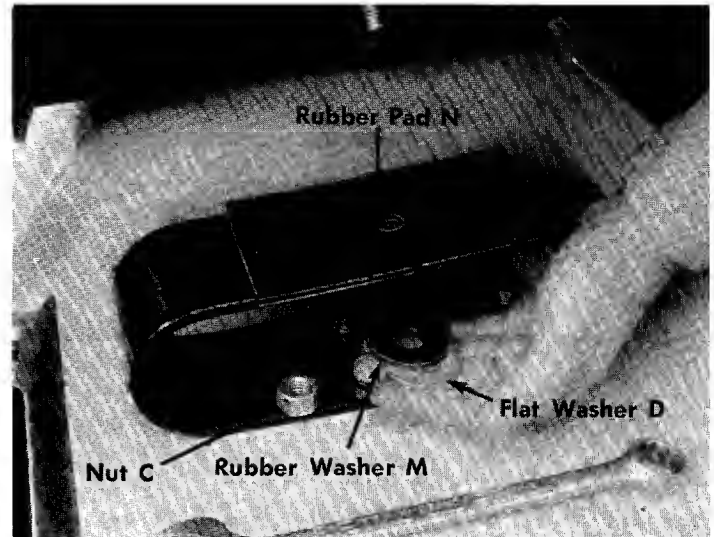

FIGURE 4. SEAT ASSEMBLY
- Step 6. Place rubber pad "N" over one of the mounting holes in the seat spring. See figure 4.